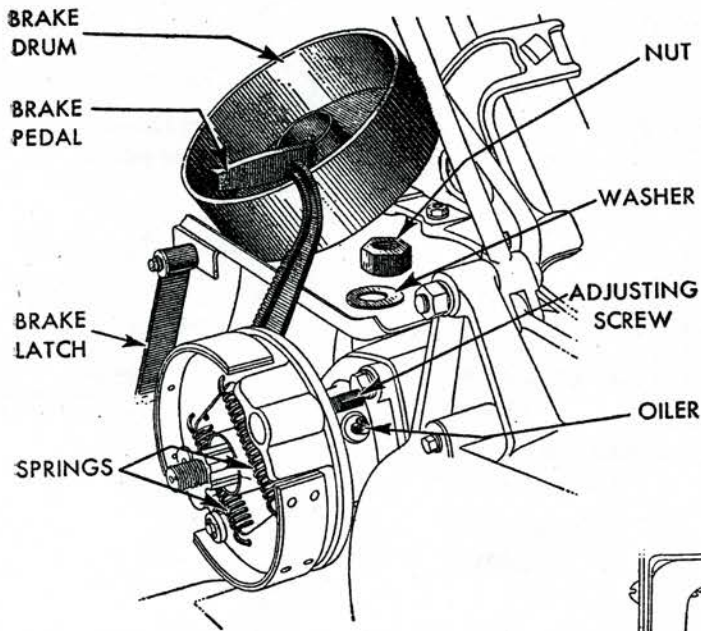

Fig. 45 Differential brake. Series A, B, G
**ADJUSTMENT**—To tighten brakes, use a 6-inch wrench and turn the adjusting screw, Fig. 45, down snug and back off four or five notches.